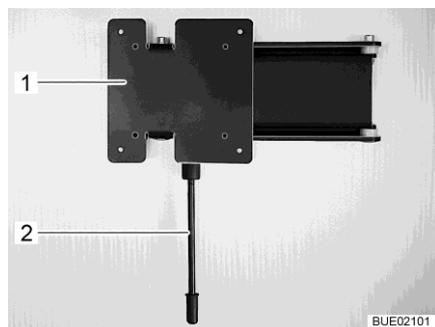

Fig. 86 Wall holder
- Pull down the release lever (Fig. 86,1) and turn the holder (Fig. 86,2) with the flat screen to the desired position.